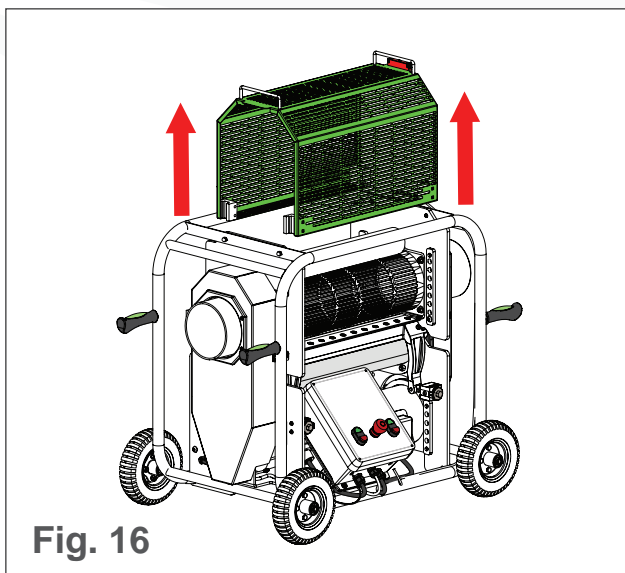

Fig. 16
2. Lift the tumbler guard up and off the machine (see Fig. 16).